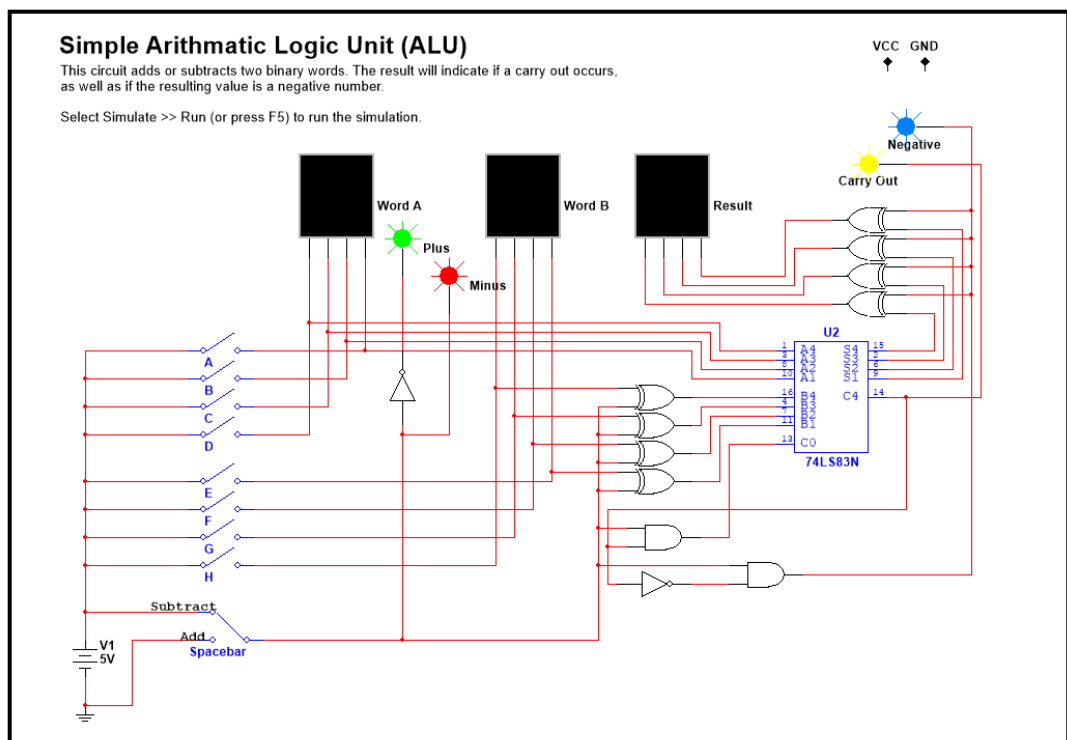

Fig. 10.1: Simulation of digital circuit on virtual lab software.
- Make proper circuit connections as per Fig. 10.1. Run the simulation. Note down observations in a practical file.